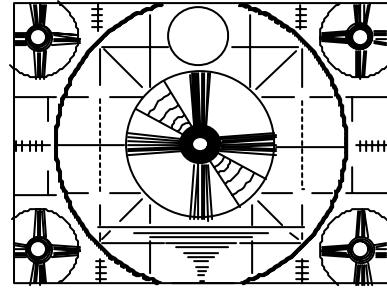

Fig.1-7 PAL MONO-SCOPE
2. Use the VOLUME + or - key on the remote controller to adjust each of the six circles to draw a true circle. (Fig. 1-7)